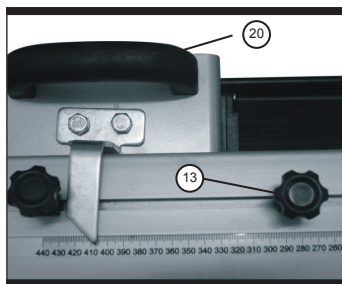

Fig 10
9.Fit both adjustable clamping knob (13). (See fig10)
5.Push the hand grip (20) forward and backward to make a cut. You must secure your workpiece from moving to prevent any personal injury when operating your tool.(See fig 10)